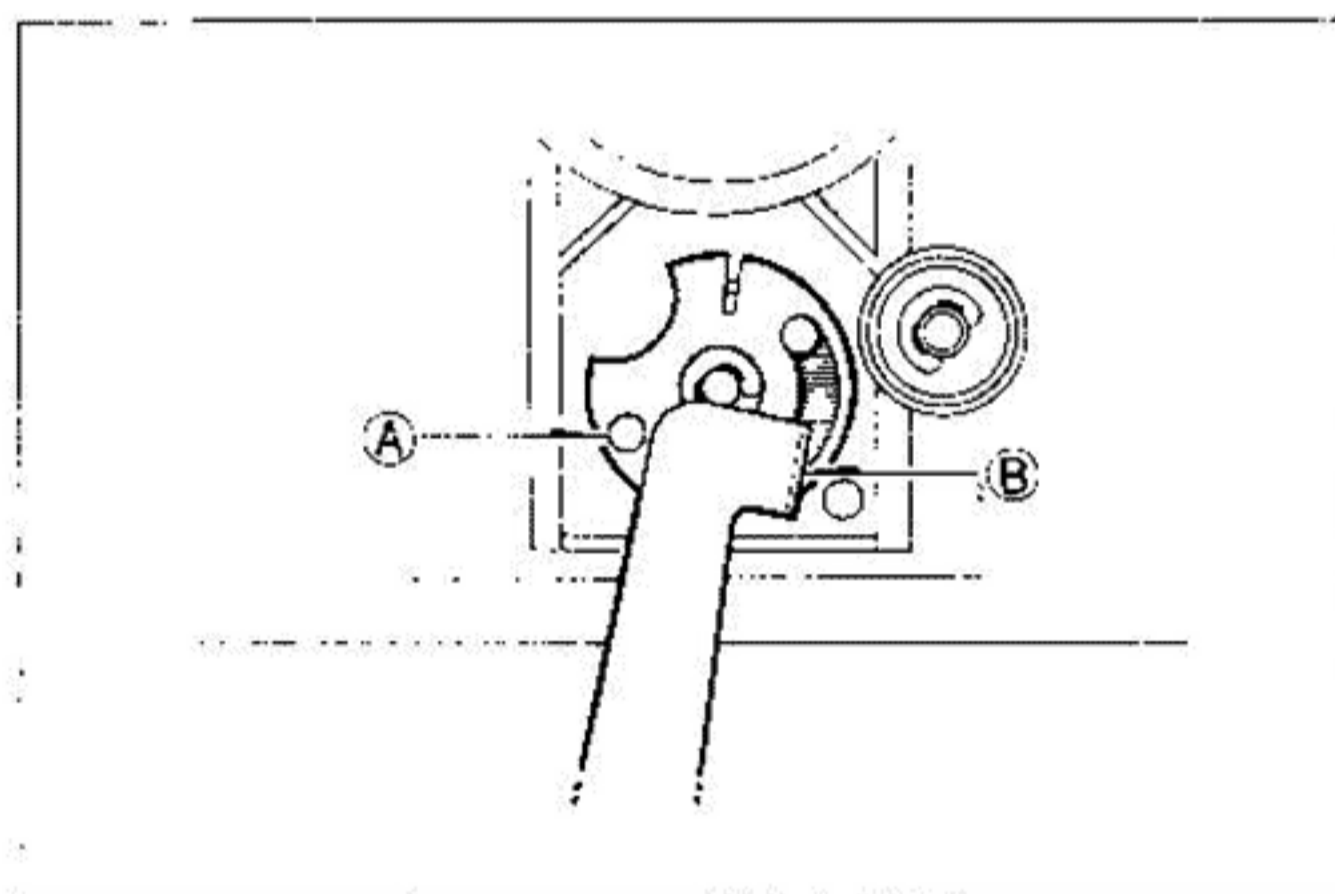

Fig. 8
* Without this step, pin A and cueing lever B remain in the positions as shown in Fig. 8. This will hinder the lifter operation after the tonearm is installed.